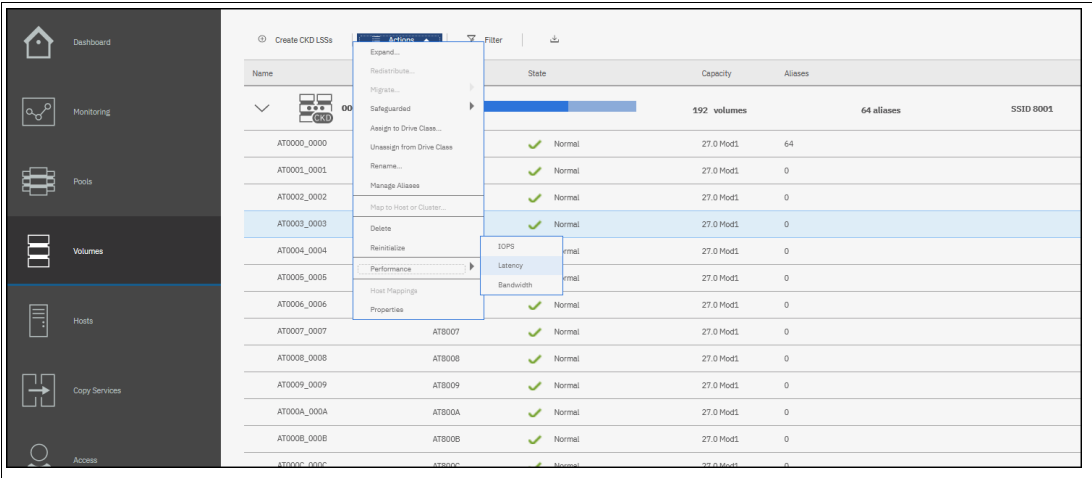

Figure 9-128 Performance action for a volume
**Note:** The **Performance** action on the Volume, Host, and LSS resources is also available in all pages where they are shown. For any Volume, Host, or LSS, select **Performance** from the **Action** menu and then click the metric that you want to monitor. The performance window for the selected resource and metric opens. Figure 9-128 shows the performance actions and metrics that are available for a volume on the Volume by LSS page.